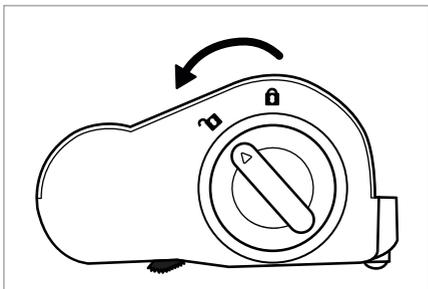

Fig. 26
- 2) Unlock the rotary brush **21** by turning the rotary brush release **19** towards the symbol  (open) (see Fig. 26).